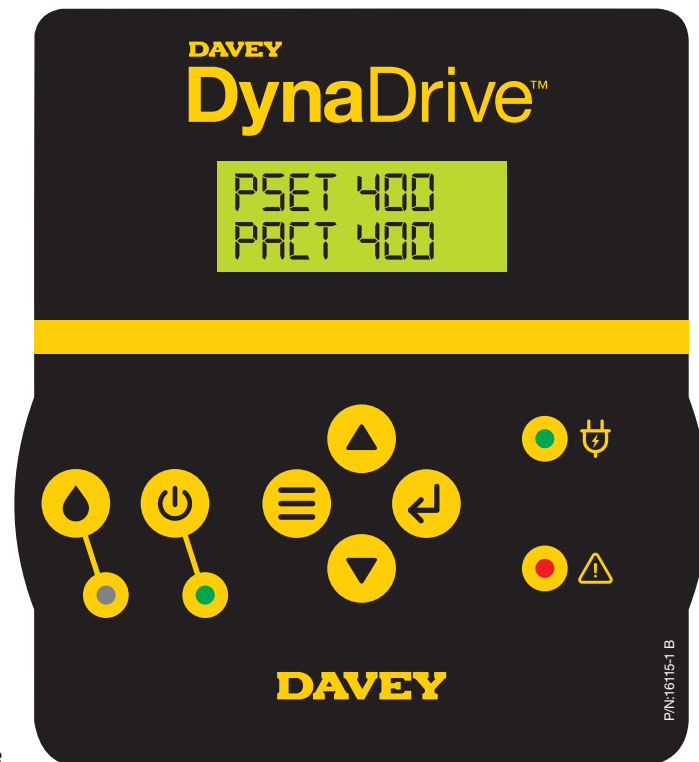

Figure 7.3
- The green ⏻ **Automatic LED** will turn off, see figure 7.3;